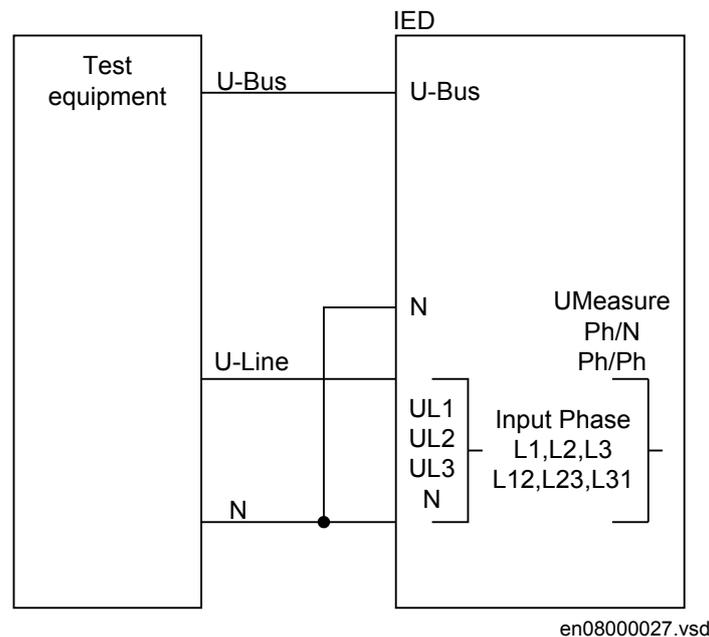

Figure 19: General test connection with three-phase voltage connected to the line side
Figure 19 shows the general test connection principle, which can be used during testing. This description describes the test of the version intended for one bay.
1. Use the same basic test connection as in figure 19.